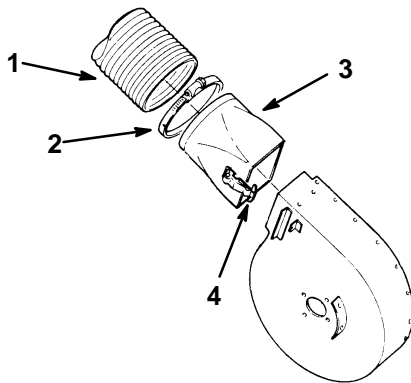

Figure 18
1. Assemble the hose onto the adaptor and secure with the clamp (Fig. 18).
2. Slide the adapter onto the blower assembly and secure with the latch handle (Fig. 18).